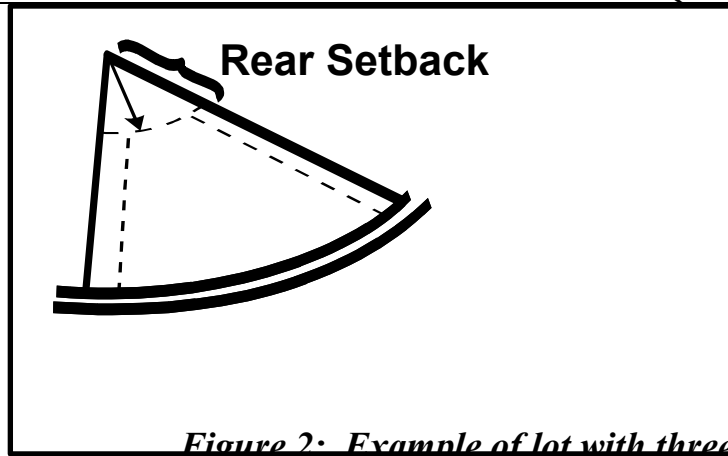

Figure 2: Example of lot with three (3) sides
- B. Lots with three (3) sides:
2. Rear Setback: For three-sided lots with road frontage, the rear of the lot shall be determined by intersecting the two sides of the lot not on the road. The rear setback shall be set as an arc from the rear corner equal to the rear setback distance for the filing. The arc shall adjoin the side setback lines. (See Figure 2).